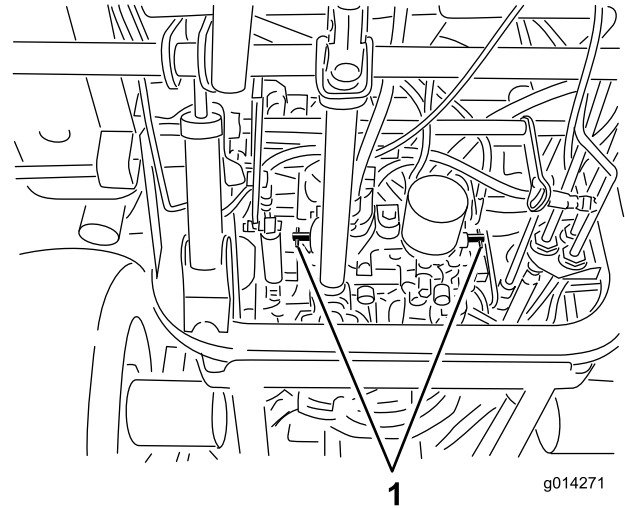

Figure 28
4. Rotate each bypass valve counterclockwise 1 turn (Figure 28).
1. Rotate each bypass valve clockwise 1 turn and hand tighten them (Figure 28).
2. Torque the valves approximately 8 N·m (71 in-lb) as shown in Figure 28.